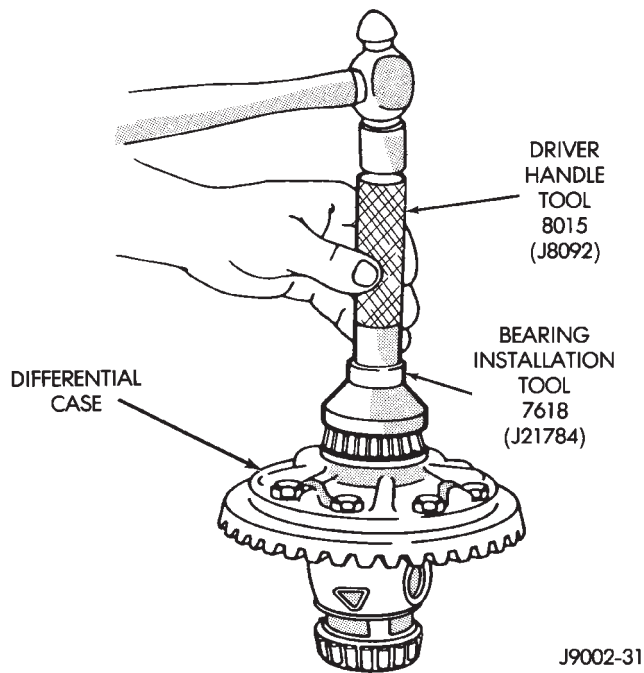

Fig. 33 Differential Bearing Installation
(1) Install the bearings on the hub with Installer 7618 (J-21784) and Driver Handle 8015 (J-8092) (Fig. 33).
(2) Match each bearing cup with bearing (original). Install the cups on the bearings.
(3) Install the differential case in the housing.
(4) Install the outboard shim/spacer (selected thickness) on each side between bearing cup and